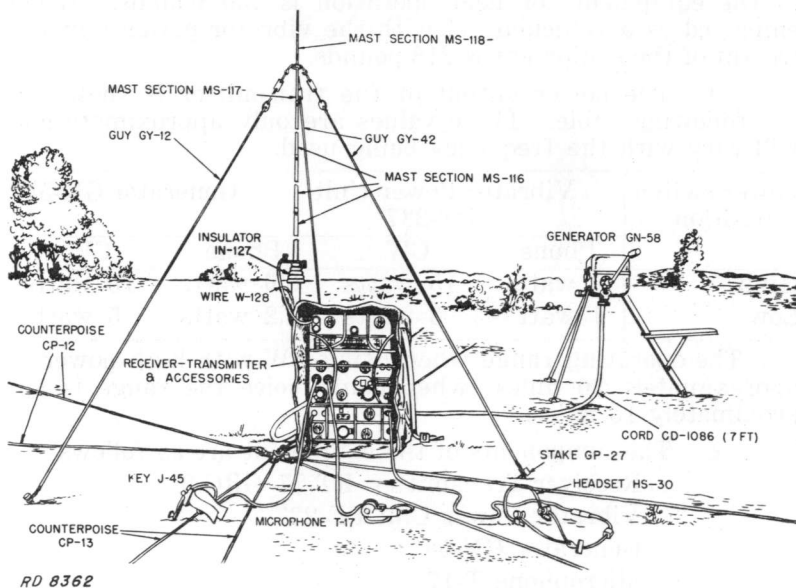

Figure 24.—Radio Set AN/GRC-9.
d. The equipment, set up for normal operation, is illustrated in Figure 24.